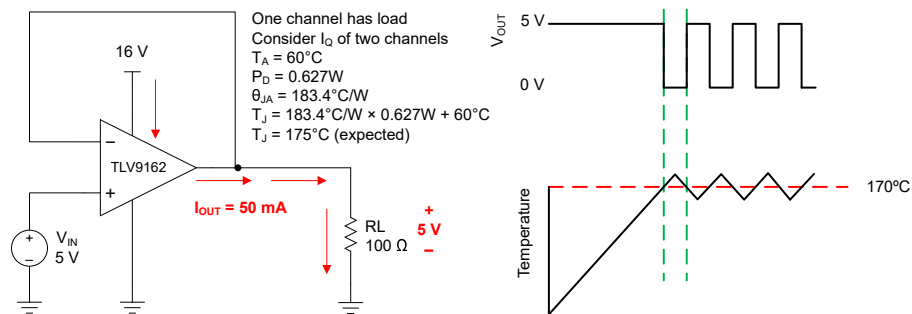

Figure 7-4. Thermal Protection
The internal power dissipation of any amplifier causes its internal (junction) temperature to rise. This phenomenon is called *self heating*. The absolute maximum junction temperature of the TLV916x-Q1 is 150°C. Exceeding this temperature causes damage to the device. The TLV916x-Q1 has a thermal protection feature that reduces damage from self heating. The protection works by monitoring the temperature of the device and turning off the op amp output drive for temperatures above 170°C. **Figure 7-4** shows an application example for the TLV9162-Q1 that has significant self heating because of its power dissipation (0.627 W). In this example, both channels have a quiescent power dissipation while one of the channels has a significant load. Thermal calculations indicate that for an ambient temperature of 60°C, the device junction temperature reaches 175°C. The actual device, however, turns off the output drive to recover towards a safe junction temperature. **Figure 7-4** shows how the circuit behaves during thermal protection. During normal operation, the device acts as a buffer so the output is 5 V. When self heating causes the device junction temperature to increase above the internal limit, the thermal protection forces the output to a high-impedance state and the output is pulled to ground through resistor R_L . If the condition that caused excessive power dissipation is not removed, the amplifier will oscillate between a shutdown and enabled state until the output fault is corrected. Please note that thermal performance can vary greatly depending on the package selected and the PCB layout design. This example uses the thermal performance of the TSSOP (8) package.